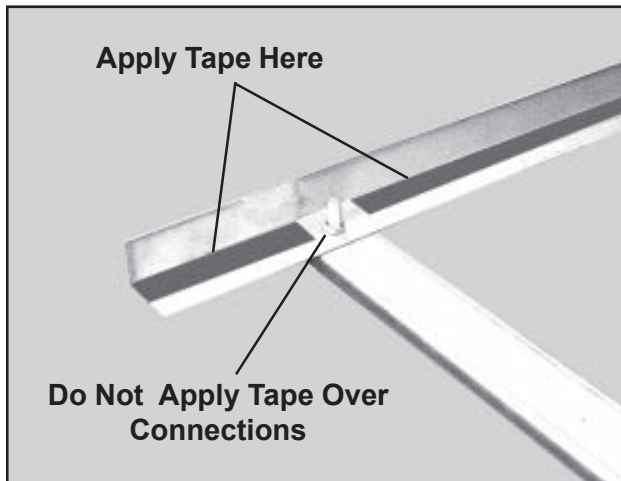

Figure 7. Placing Tape on the Frame Rails
1. Apply double-faced tape to the full length of the front and rear frame rails (Figure 7). One edge of the tape should be as close to the vertical part of the frame rail as possible. **Note:** Do not place tape over the crossmember, caster, or diagonal brace connections.